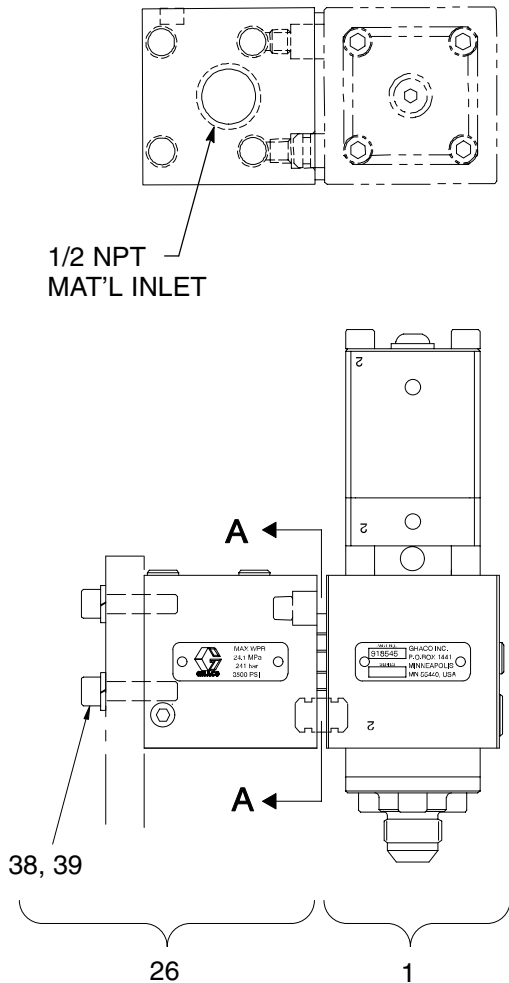

Fig. 15
4. Install the dispense valve (1) assembly on its mounting using four cap screws (38) and lock-washers (39). See Fig. 15.